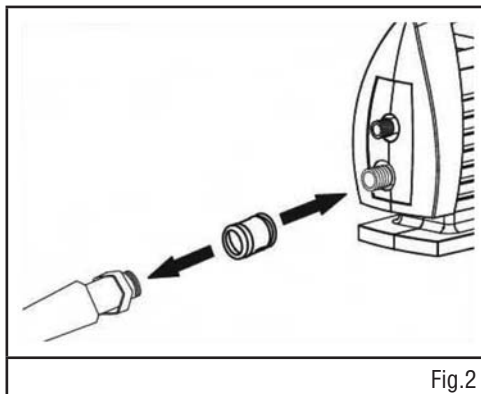

Fig.2
2. Attach the quick-connect coupling (#2) onto the garden hose and washer's inlet. (Fig. 2)